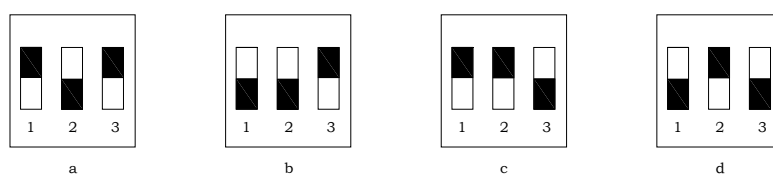

Figure 3.2 Red State Switch
3.4.6 Through the above adjustments engine still unable to stability, it needs to be adjusted Red State Switch now, figure 3.2 four cases (a: RSW-1、RSW-3 = ON、RSW-2 = OFF; b: RSW-1、RSW-2 = OFF、RSW-3 = ON; c: RSW-1、RSW-2 = ON、RSW-3 = OFF; d: RSW-1、RSW-3 = OFF、RSW-2 = ON). After every adjusting Red State Switch go on the 3.4.4.1 and 3.4.4.2 adjusting procedure again. If it is still unable to stability, should inspect engine and fuel pump for service condition. And then, contact with manufacturer.